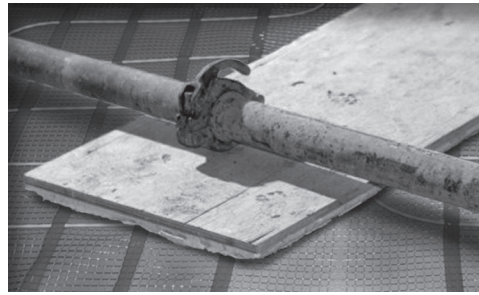

Figure 13
- Always lay the concrete pump pipe (especially the pipe gaskets) over a styrofoam panel reinforced with a plywood (plywood side up) to prevent damage to the mats (*figure 13*).